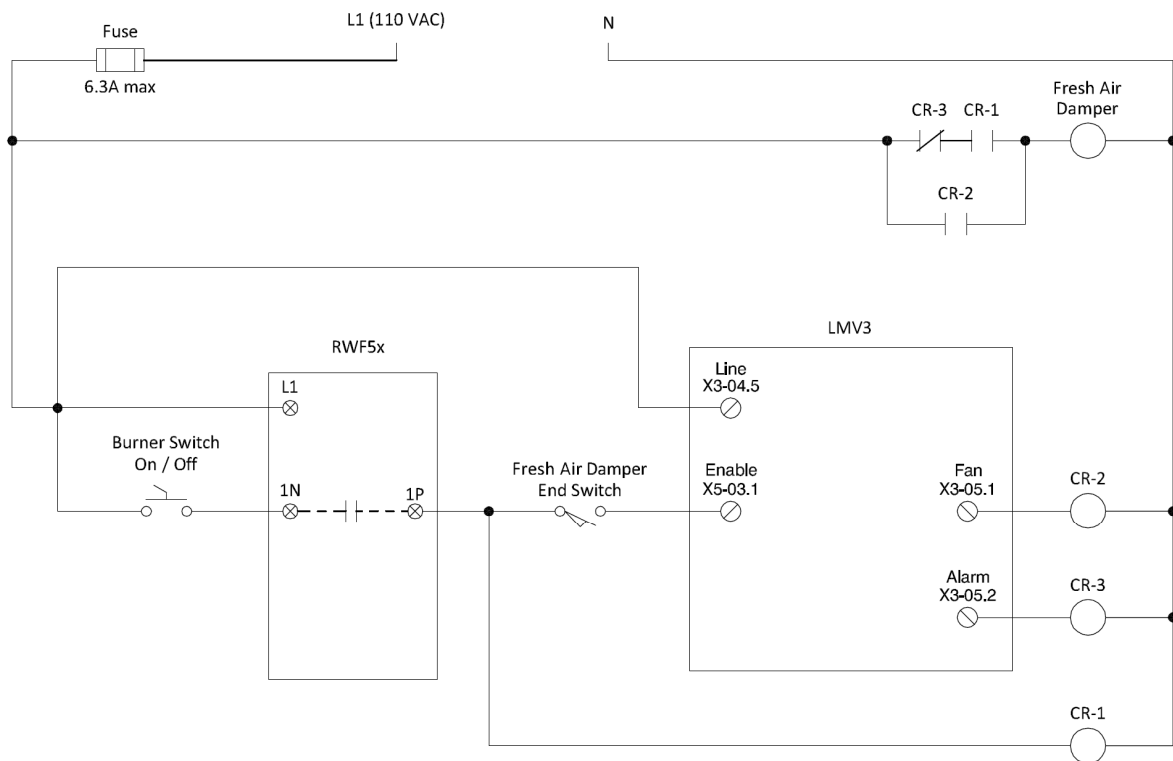

Figure 1: LMV3 Fresh Air Damper Wiring
1. Wire the LMV3, RWF5x load controller, and fresh air damper as shown in Figure 1.